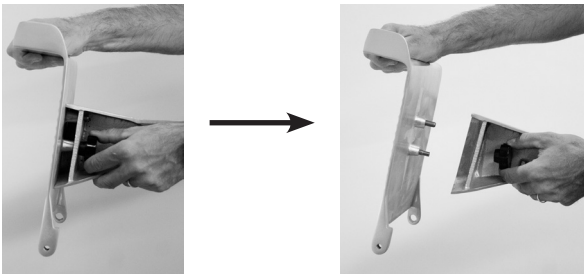

Figure 11-2
5. Remove the food chute. Loosen food chute release knob that fastens the food chute to chute arm (Fig. 11-2). Remove food chute from slicer.